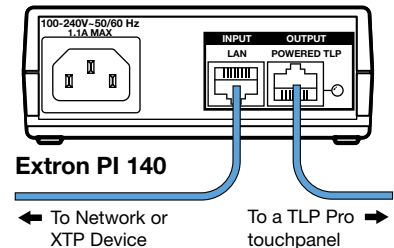

Figure 4. Connecting the Power Injector
- To use a PoE power injector, connect the touchpanel as shown in figure 4, below. You must use the PI 140 (shown in figure 4) with the TLP Pro 1720 series touchpanels and Extron recommends using this power injector with the TLP Pro 1220 and TLP Pro 1520 series touchpanels.